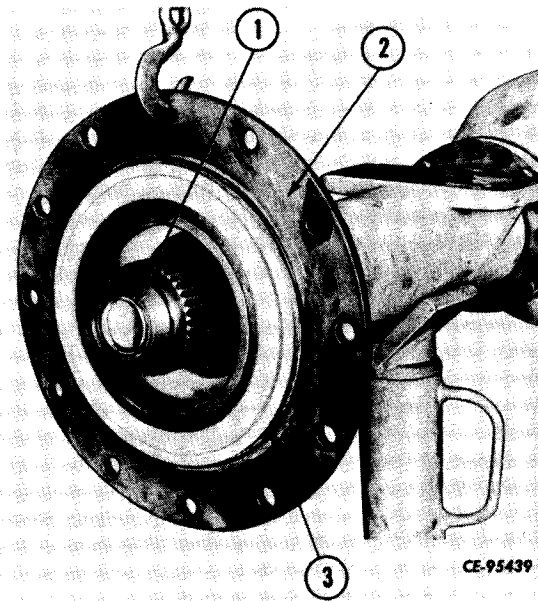

Figure 6-9
Using a hoist, remove wheel hub and bearing assembly (2, Fig. 6-9) from axle housing. Remove and discard "O" ring (3). Remove axle seal (1) from housing.